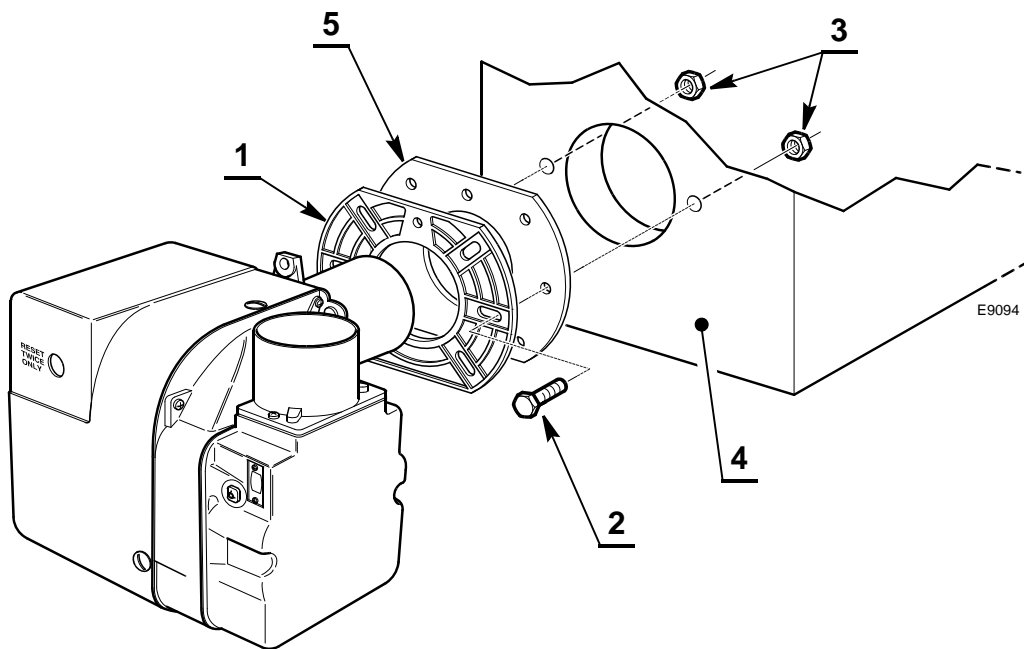

Fig. 8
- Fix the flange 1)(Fig. 8) to the boiler door 4) using screws 2) and (if necessary) the nuts 3) interposing the insulating gas-ket 5).